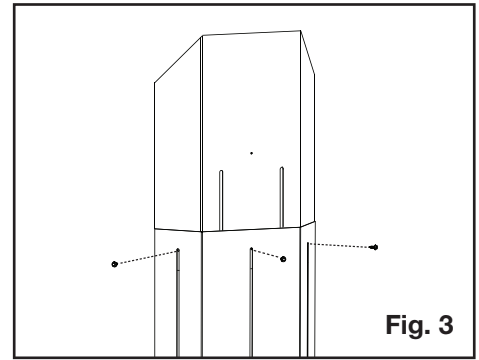

Fig. 3
3. Install the other vent shield on the opposite side of the firestop spacer (**Figure 3**).
3. Tighten the fasteners to lock the vent shield height (Figure 3).